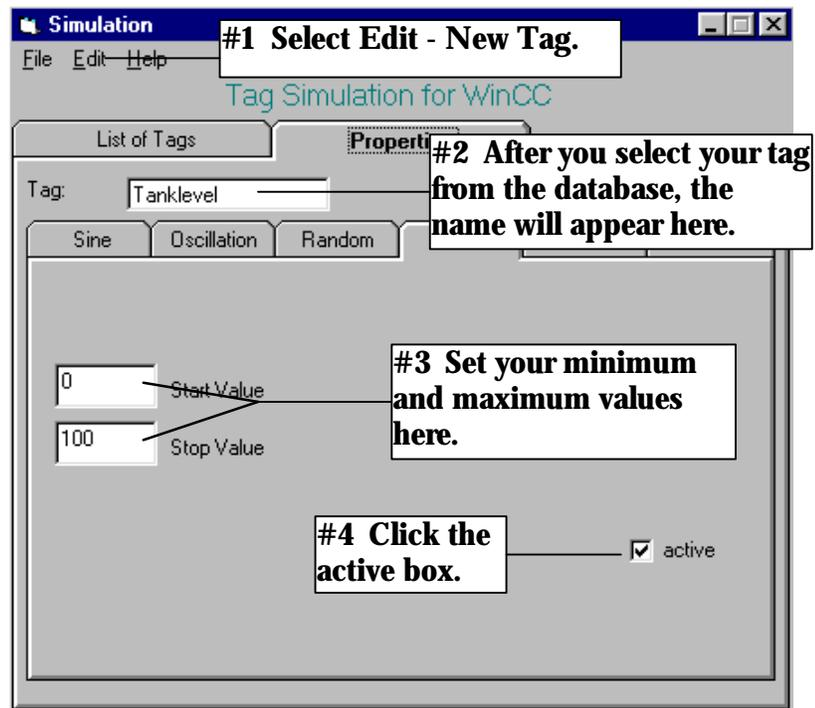

Figure 2.29 WinCC Project "QckStart"; Configuring the Simulator
5. You should see the active tag and its changing values under the "List of Tags" tab. See Figure 2.29 as a reference.